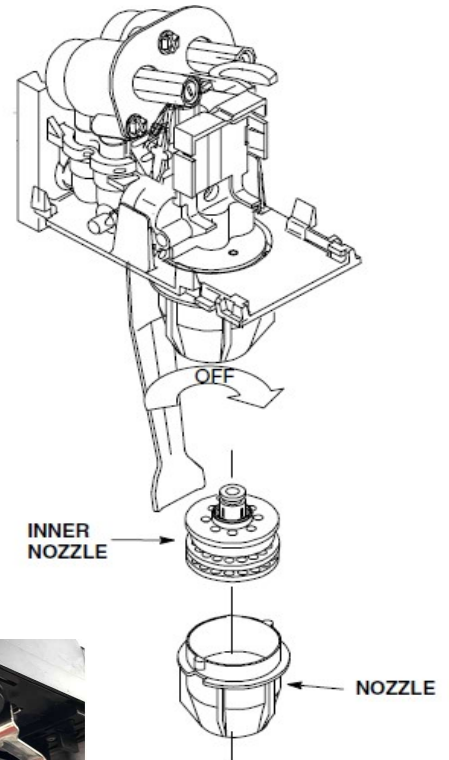

Figure 1.
4. Spray the sanitizing solution upwards into the underside of valve as shown in Figure 1, ensuring that all surfaces are saturated, Clean the region using the valve brush. (Do not use a wire brush)